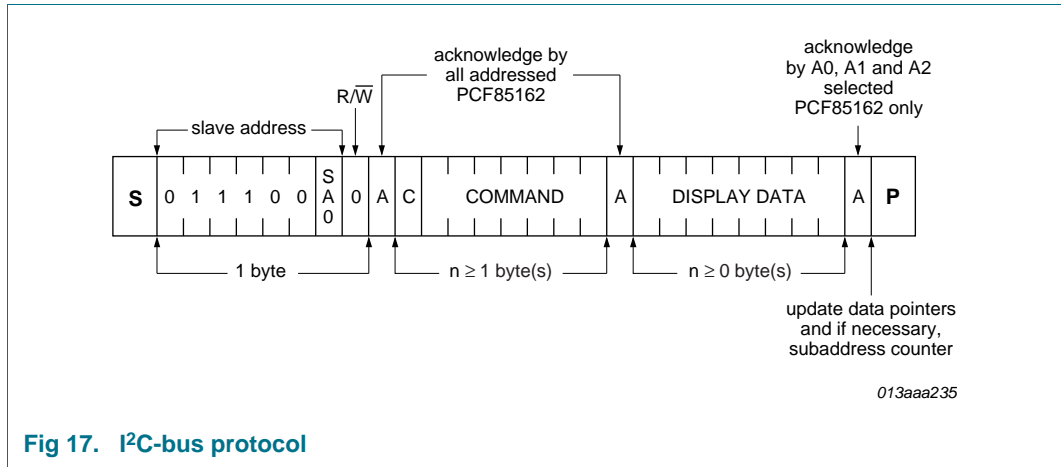

Fig 17. I2C-bus protocol
The I2C-bus protocol is shown in Figure 17. The sequence is initiated with a START condition (S) from the I2C-bus master which is followed by one of two possible PCF85162 slave addresses available. All PCF85162 whose SA0 inputs correspond to bit 0 of the slave address respond by asserting an acknowledge in parallel. This I2C-bus transfer is ignored by all PCF85162 whose SA0 inputs are set to the alternative level.